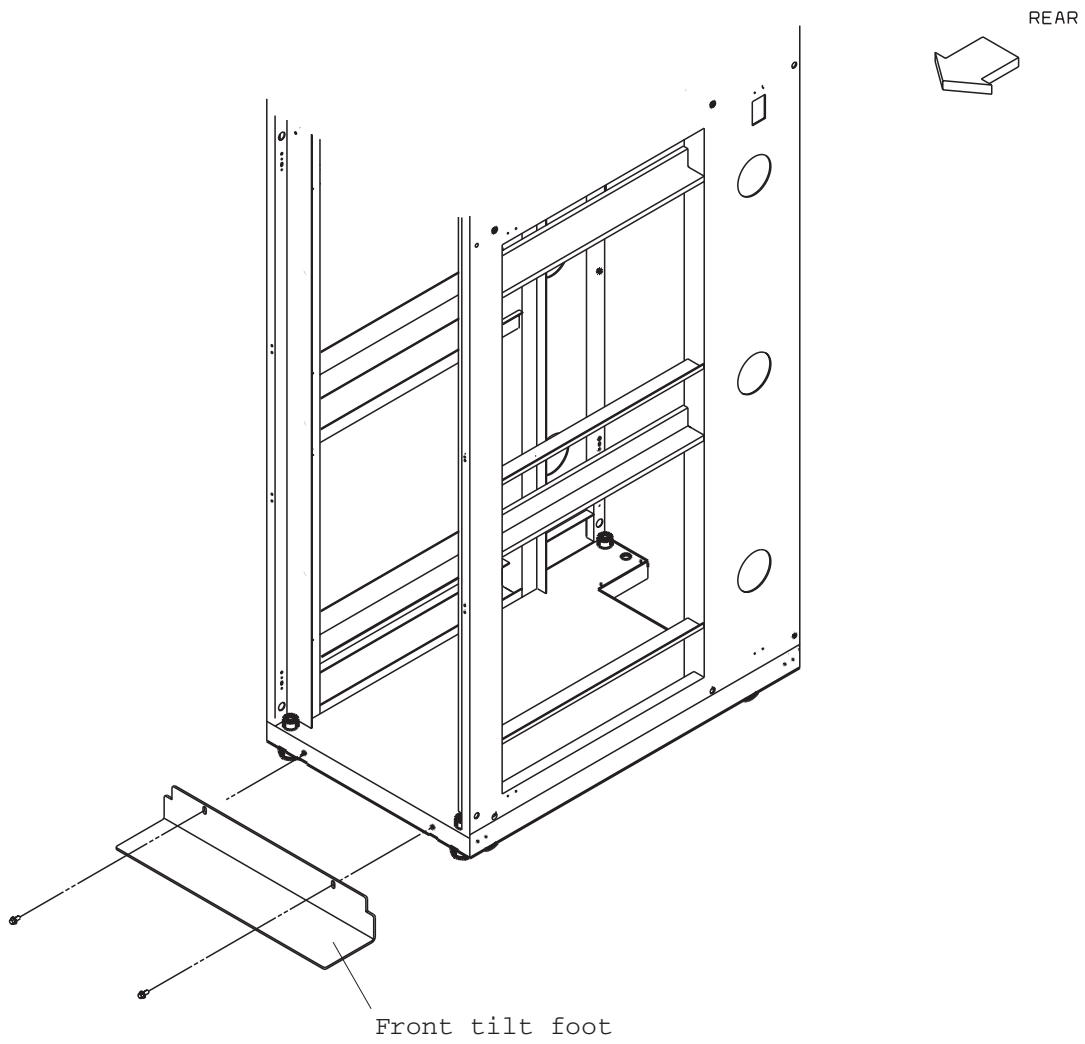

Figure 4. Installing the stabilizer (tilt) foot
2. Install the frame-stabilizer foot on each cabinet. **Figure 4** shows how to install a frame-stabilizer foot.